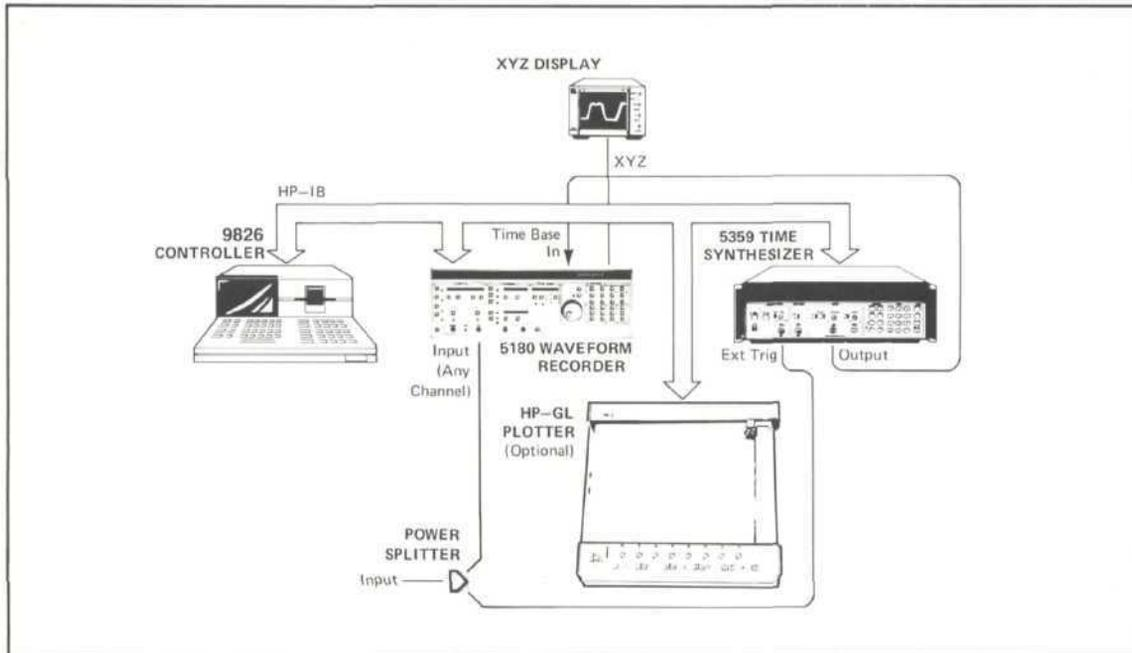

Figure 2. 5180A sampling system.
In addition to the 5180A Waveform Recorder, the 5180A Sampling System requires a programmable timing generator and an instrument controller. The system implementation described in this note uses a 5359A Time Synthesizer and a 9826 Controller. Figure 2 shows the set-up.
The measurement technique is similar to that used in a sampling scope – the sample point is walked through the input by successively increasing the delay between the occurrence of an input trigger and the time the input is sampled. As can be seen from Figure 2, the 5359A is externally triggered by the input signal.** The time between occurrence of this trigger and the output of a pulse from the 5359A is precisely controllable (increments as small as 50 picoseconds), so the 5359A provides the variable delay capability. The output pulse from the 5359A is the input that tells the 5180A when to sample the input signal. A detailed description of the system operation appears in the next section.
The equipment set-up and required interconnections are shown in Figure 2. A step-by-step procedure for making the 5180A Sampling System operational is provided below:
1. Complete the system interconnections according to Figure 2. HP-IB device addresses are: 04 for the 5180A, and 10 for the 5359A.